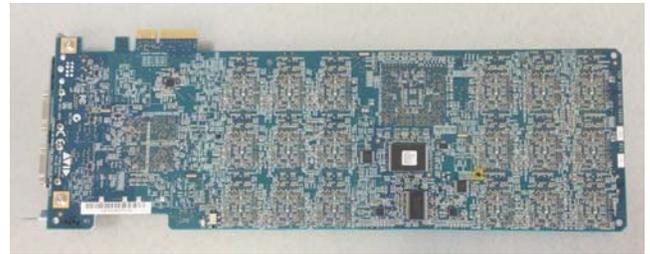

Figure 7. Top view of the HDX card
- 5 Remove the DSP card from its packaging and place it on your foam surface, oriented as shown in Figure 7.